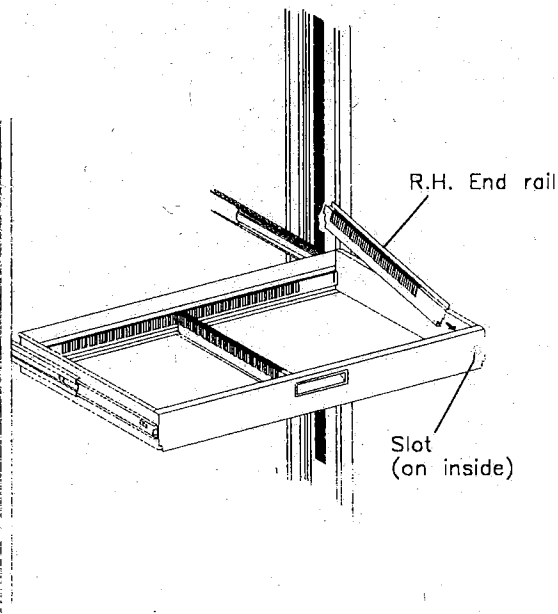

Figure 3. End panel installation
3. Install R.H. end rail to the far R.H. side of the drawer (see Figure 3.) Insert the tab at the front of the rail in to the single slot at the far right front of the drawer, then insert the rear of the rail in to the far right slot in the rear panel. Repeat the instructions to install the L.H. end rail on the far L.H. side of the drawer.